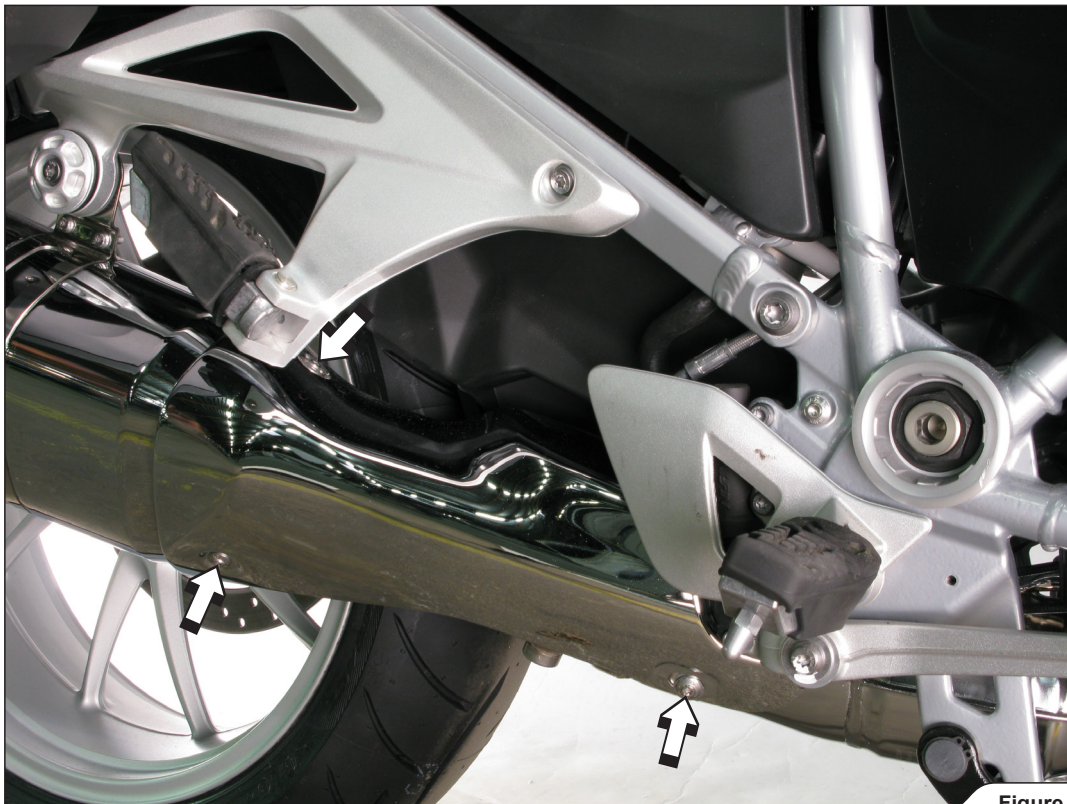

Figure 1
2. Unscrew the marked heat shield's bolts and carefully remove the heat shield off the motorcycle (**Figure 1**).